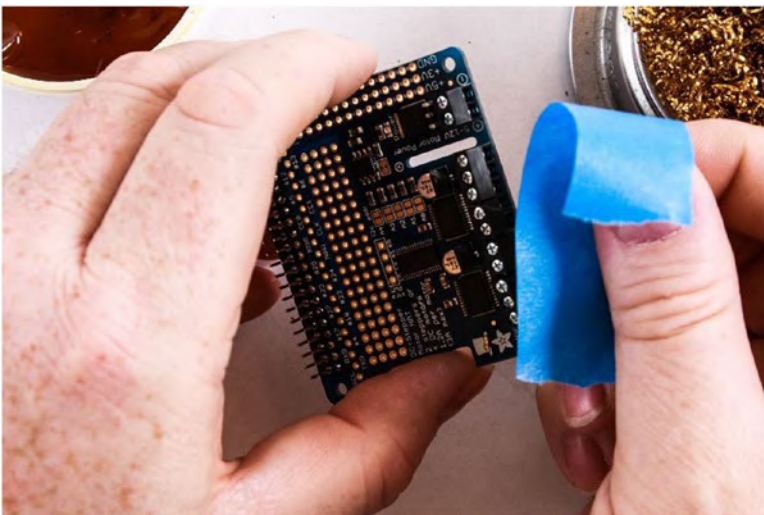

Figure 6-12. Tape helps hold the terminal blocks on the board while you turn it over to solder them into place
9. Use tape to hold the terminals in place while you flip the board over (see Figure 6-12).